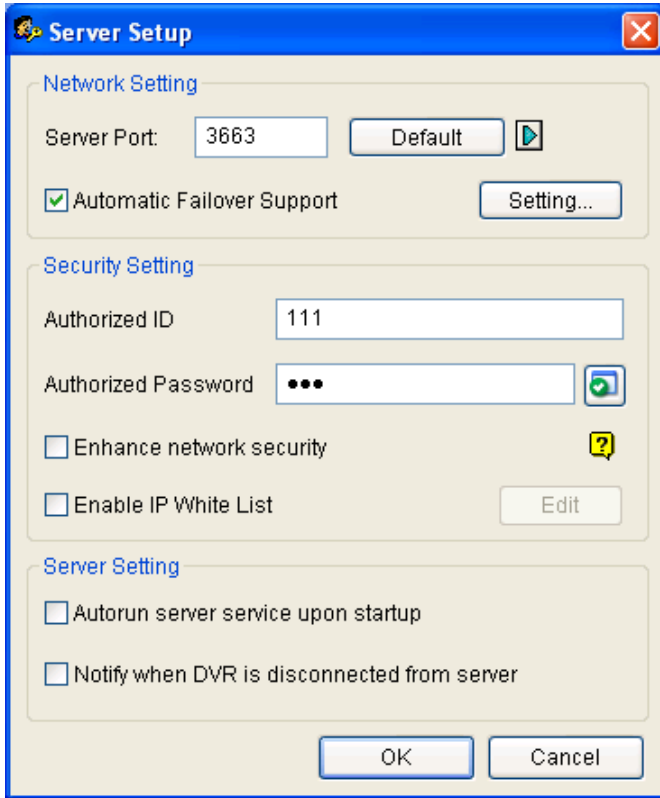

Figure 11-27 Sever Setup
3. Enter the IP address and port of the Authentication Server. Enter the valid ID and password created in the Authentication Server (Figure 11-27).
1. The valid ID and password created in the Authentication Server (Figure 11-27) don't match those in the GV-System (Figure 11-30).